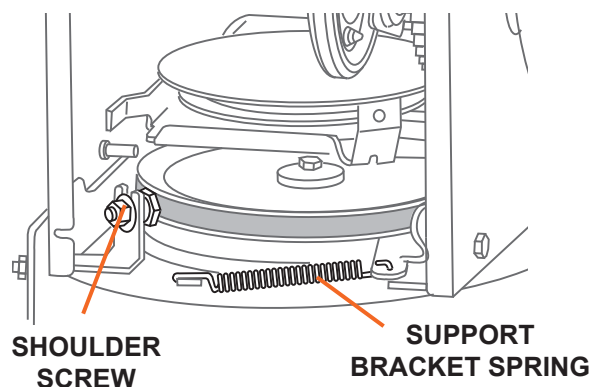

Figure 25
4. Loosen and remove the shoulder screw which restrains the belt from jumping off of the pulley. Unhook the support bracket spring from the frame (see Figure 25).